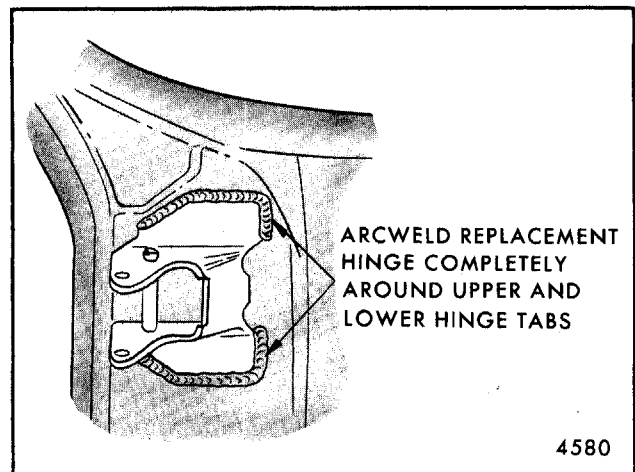

Fig. 5-105-Body Side Hinge Strap Installation - X Styles Shown, H Styles Similar
4. Remove door and complete arc welding of hinge. Arc weld completely around upper and lower hinge tab as shown in Figure 5-105.